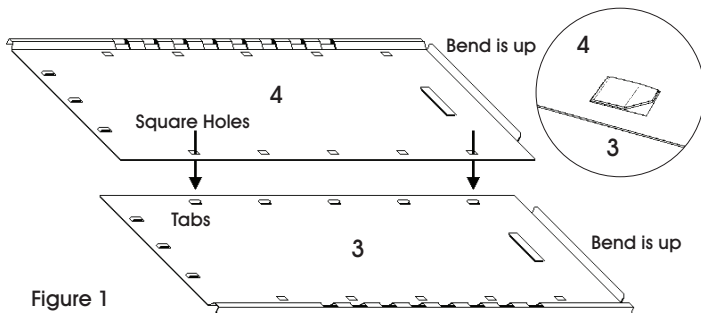

Figure 1
1. Lay the two back panels on a flat surface. (See Figure 1)
2. Place the right back panel (4) over the left back panel (3), inserting the locking tabs into the matching square holes. (See Figure 1)